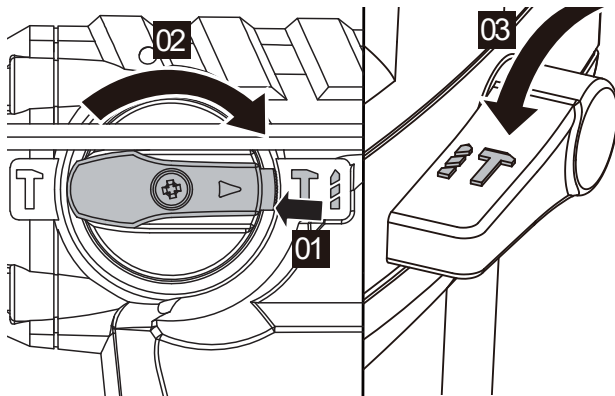

Figure 6
3. HAMMER DRILL FUNCTION (SEE FIG. 6)